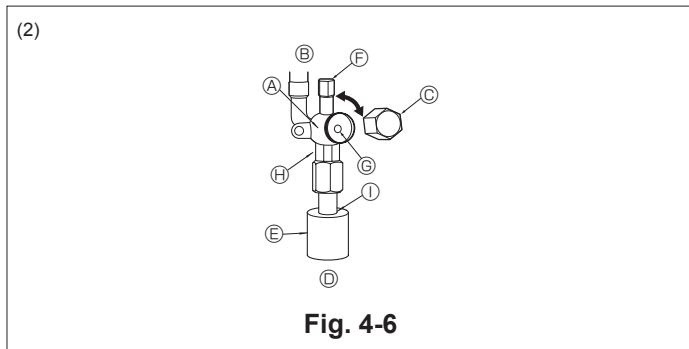

Fig. 4-6
② Make sure that the stop valve is open completely and rotate the cap back to its original position.
(2) Liquid side (Fig. 4-6)
① Remove the cap and turn the valve rod counterclockwise as far as it will go with the use of a 4 mm hexagonal wrench. Stop turning when it hits the stopper.